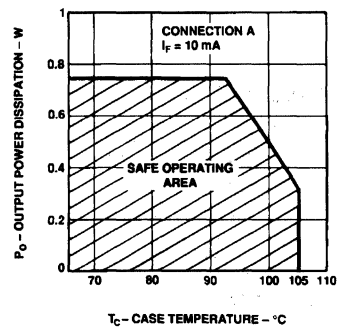

Figure 4. Output Power Derating vs. Case Temperature.
- For derating, see Figure 4. The output power P_O derating curve is obtained when the part is handling the maximum average output current I_O as shown in Figure 3.